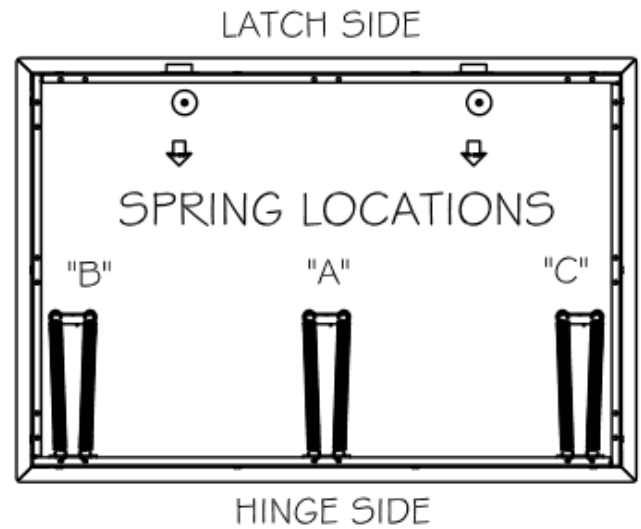

fig. 2
5. Install springs per reference table, fig. 2. Self-closure of door is required for UL or Warnock-Hersey fire rating. Neglecting to install springs will void the fire-rating